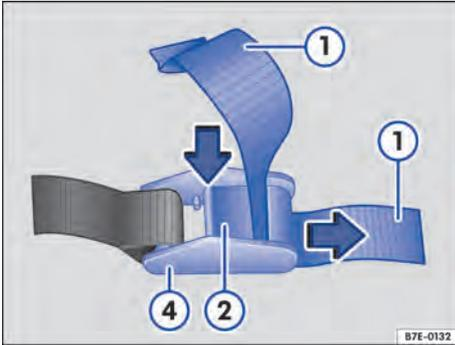

Fig. 140 Releasing the buckle strap.
- Press the lever → Fig. 140 ② and pull the buckle strap ① out of the buckle ④.
- Feed the buckle strap → Fig. 140 ① from the back to the front between lever ② and rib ③.
- Tighten the buckle strap → Fig. 140 ① and release the lever ②.